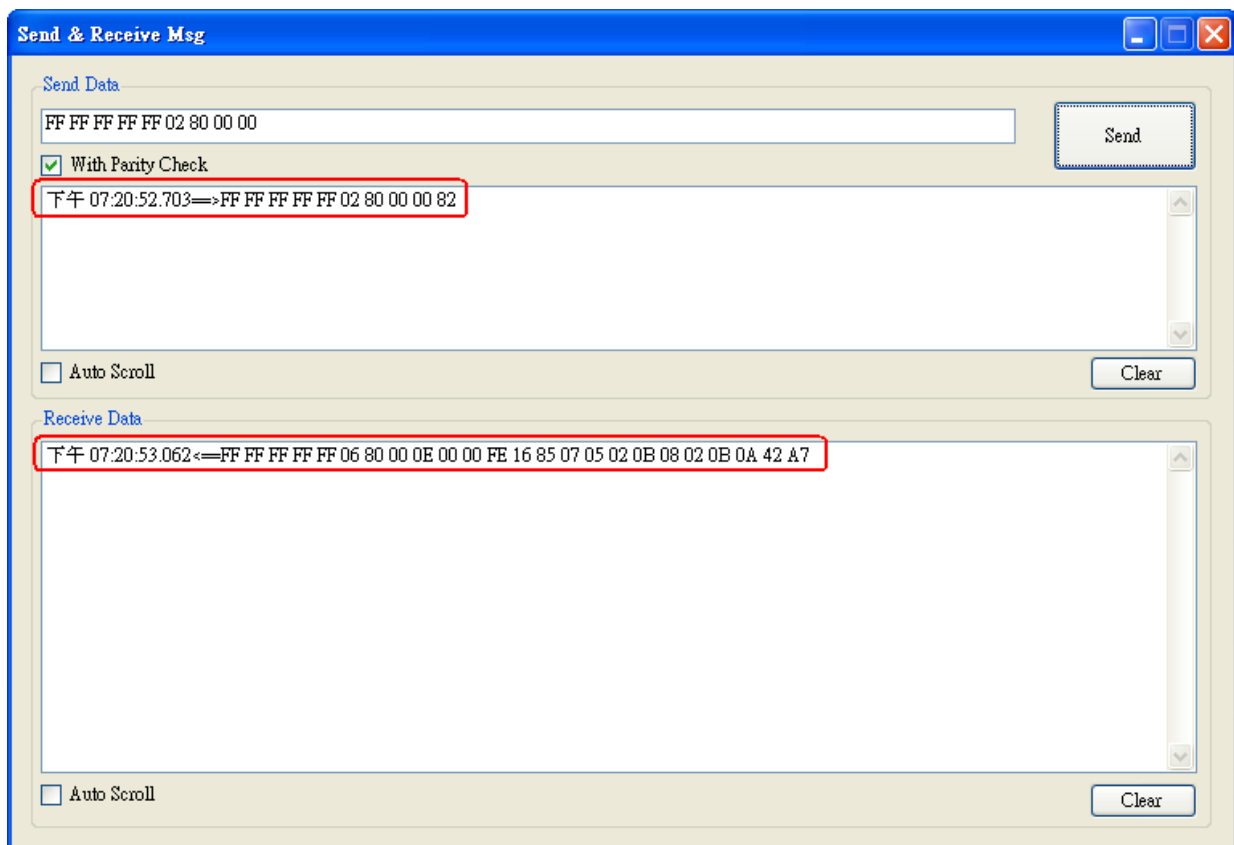

Figure 4-12: Receive HART Command
- (3) When HART device responses the HART information, it will show in the "Receive Data" field like Figure 4-12. If error happened in HART communication, it will not show any message in the "Receive Data" field. Please check the HART command in the "Send Data" field if it is correct.